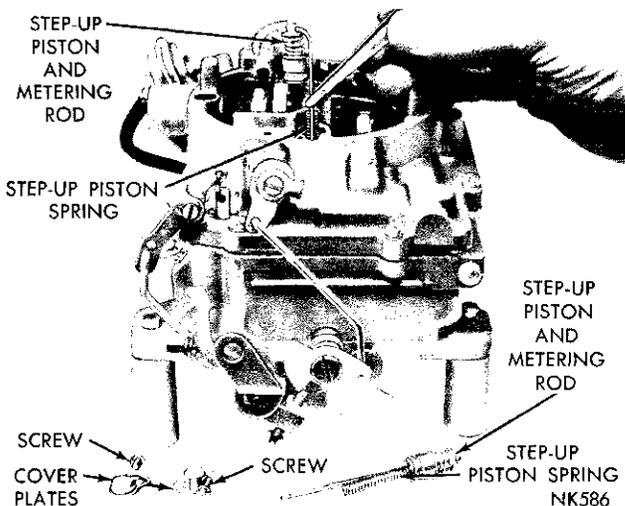

Fig. 2—Removing or Installing Step-Up Pistons and Rods
(2) Remove the hairpin clip that attaches the fast idle connector rod to the choke lever. Disengage rod from lever, then swing rod at an arc until it can be disengaged from the fast idle cam.
(3) Remove the clevis pin that holds the throttle connector rod in the center hole of the accelerator pump arm. Remove the hairpin clip that attaches the lower end of rod in the primary throttle shaft lever. Disengage rod from arm and lever, then remove from carburetor.
(4) Remove the screws attaching the step-up piston and rod cover plates. **Hold cover down with a finger to prevent the piston and rods from flying out.** Lift off the plates and slide the step-up pistons and rods out of the air horn, as shown in (Fig. 2). Remove the step-up piston springs.
(5) Remove the vacuum hose between the carburetor throttle body and the vacuum diaphragm.